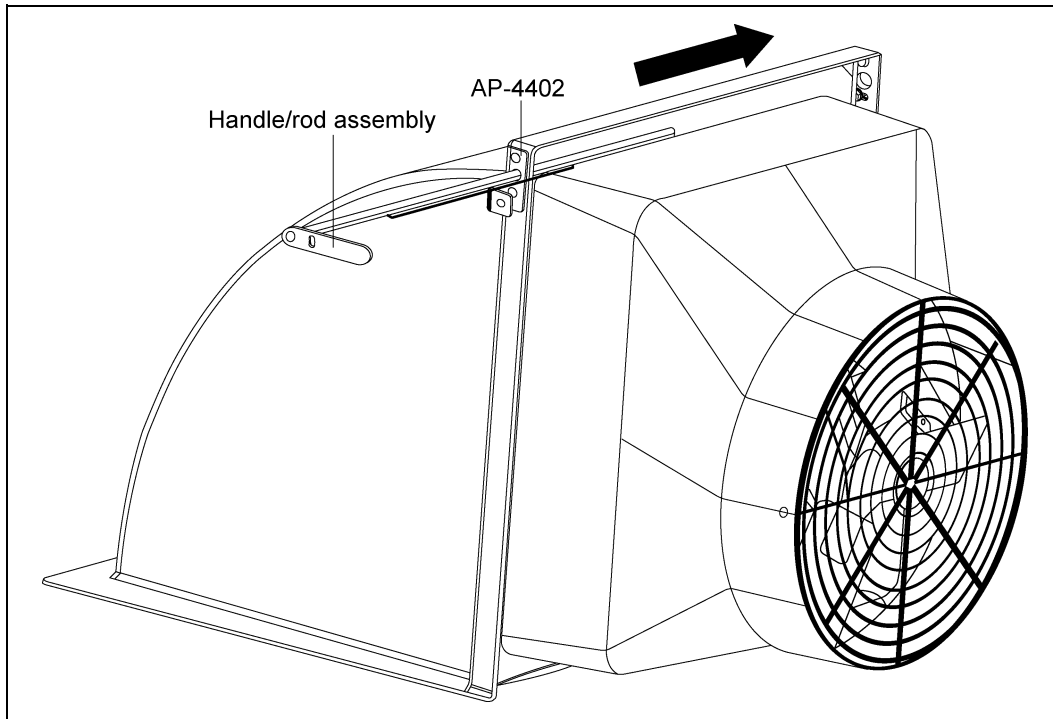
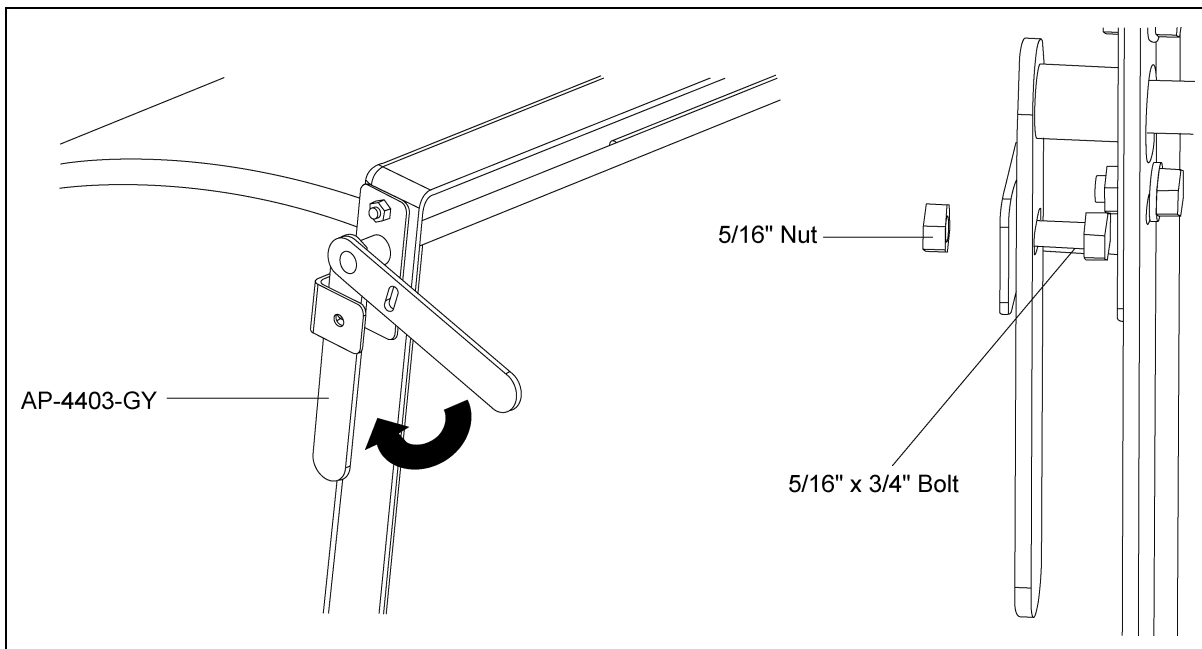

Figure 2G
Figure 2H
Step 5: While holding the fan tight against the transition, insert the handle/rod Assembly AP-4403-GY into the brackets previously installed. When the handle is completely through the brackets, turn the handle to lock the fan in place. Insert the provided hardware through the handle and bracket AP-4402 to lock the handle in place. (See Figure 2G and Figure 2H.)